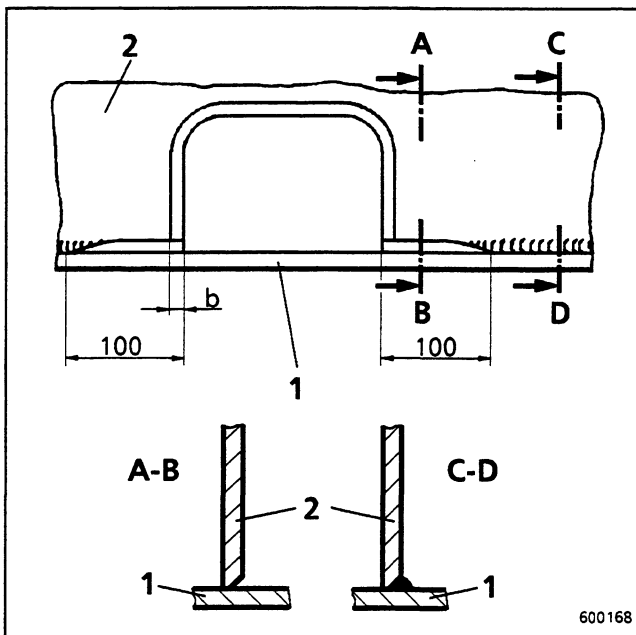

Fig. 58
2. Gouge out the longitudinal seams between chord plate (1) and web plate (2) over a distance of approximately 100 mm (fig. 58).